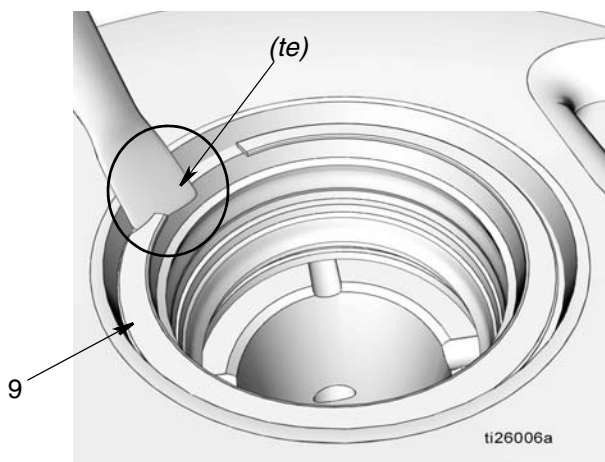

FIG. 28
- a. Slide the blade of a small, flat screw driver under the tapered edge (*te*) of retaining ring (9) and remove the ring as shown in FIG. 28.
- b. Remove the tapered spacer (10), seal (11), and spacer (12).
- c. Use the blade of a small, flat screw driver under the tapered edge (*te*) of retaining ring (51) to remove the ring as shown in FIG. 28 and remove the retaining ring.
- d. Remove spacer (12), seal (11), and spacer (12).